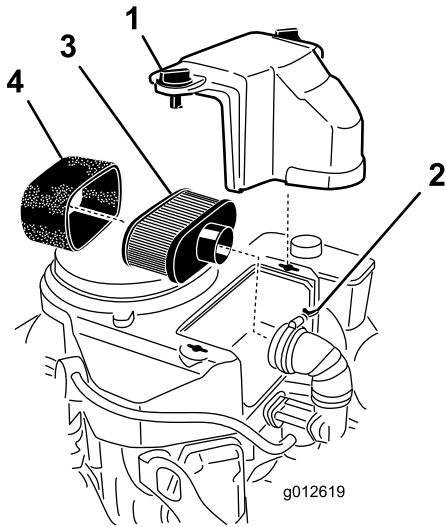

Figure 46
3. Clean around the air cleaner to prevent dirt from getting into the engine and causing damage (Figure 46).
4. Loosen the cover knobs and remove the air-cleaner cover (Figure 46).
- Loosen the hose clamp and remove the air-cleaner assembly (Figure 46).
- Carefully pull the foam element off the paper element (Figure 46).
- Clean the paper element by tapping it gently to remove dust. If it is very dirty, replace the paper element (Figure 46).
- Carefully slide the foam element onto the paper element (Figure 46).
- Place the air-cleaner assembly onto the air-cleaner base or hose and secure it (Figure 46).
- Place the air-cleaner cover into position and tighten the cover knobs (Figure 46).